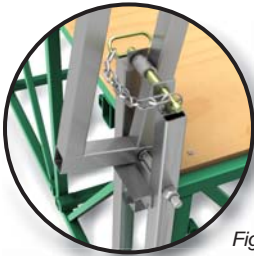

Fig. 2.7
- 3- Align the vertical post and secure it to the bridge with standard bridge bolt assemblies. Insert pin in the vertical post to store it (fig. 2.7).